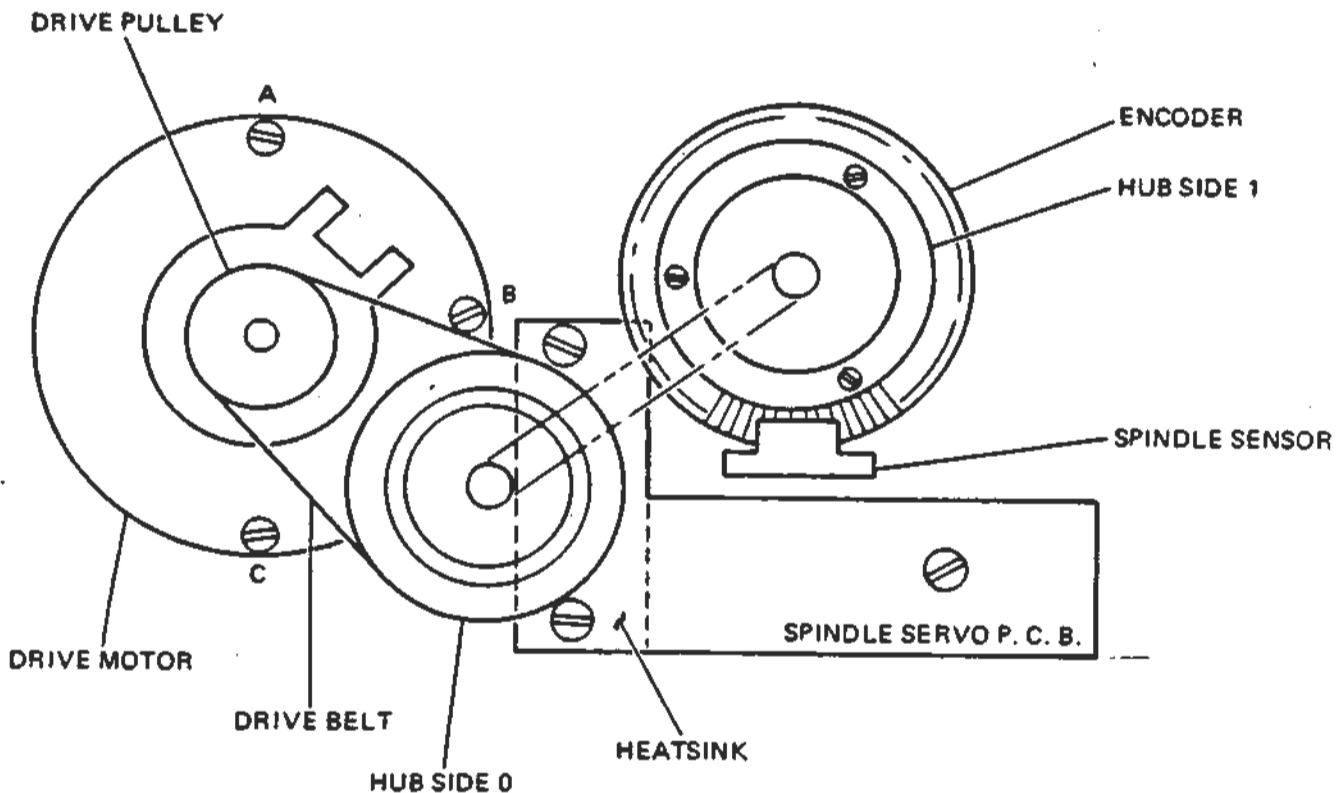

Figure 6-5 Drive System
The drive system comprises drive motor, belt, spindle sensor assembly, hub assembly and spindle servo electronics PCB. (Figure 6-5)
- f. If the drive belt tracks too low, place a shim washer (PerSci Part No. 200081-001) between the drive motor and deck plate under Screw A. (Figure 6-5)
- g. If the drive belt tracks too high, place shim washers (PerSci Part No. 200081-001) between the drive motor and deck plate under Screws B and C. (Figure 6-5), i.e., one washer at each point.
- b. Loosen three motor mounting screws. (Figure 6-5)
The spindle sensor assembly is located on Side 1 of the deck plate (Figure 6-5) adjacent to the hub encoder disc. To replace, proceed as follows:
- e. Remove two flat head screws above the spindle servo heat-sink. (Figure 6-5)
The drive spindle assembly consisting of two hubs, bearing housing, shaft, two bearings, encoder disk and clamp ring, is a replaceable assembly. (Figure 6-5) If any part of this assembly is damaged, the whole assembly has to be replaced and the faulty assembly repaired at the factory or depot equipped to do such repairs.